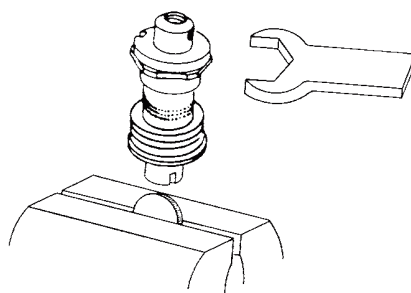
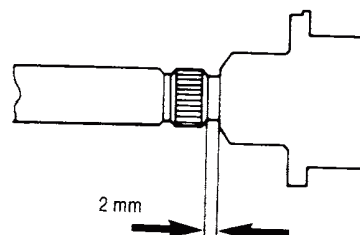

FIGURE 3
FIGURE 6
1. Unscrew the servo valve (15).
2. Unscrew the stop screw (10) using a 1.5mm allen wrench and remove the valve tube (13). Remove the O-rings (14, 12). Make sure the sealing surfaces are not damaged.
3. Remove the rubber plate (11).
4. To open valve housing place a 25¢ coin or washer of similar dimensions in a vise as shown in figure 3. Lower the valve housing slot onto coin or washer. Use a 24mm open end wrench, or 8 inch adjustable wrench on the wrench flats to loosen housing.
3. Grease the sleeve with a very thin coating of silicone. Install the sleeve holder (7) and the sleeve (6), or the newer sleeve and holder assembly (31) into the cleaned valve housing (4).
4. Place the O-ring (8) in the groove of the sleeve holder (7). Lubricate the thread. Install the valve housing nut (9).
5. To close valve housing place a 25¢ coin or washer of similar dimensions in a vise as shown in figure 3. Lower the valve housing slot onto coin or washer. Use a 24mm open end wrench, or 8 inch adjustable wrench on the wrench flats to tighten housing.
6. Install the O-rings (12, 14) on the valve tube (13). Grease the threads and the O-rings lightly.
7. Screw in the valve tube (13) until about .078" (2mm) space remains (if you don't have a .078" gauge or micrometer the edge of a U.S. nickel can be inserted as a gauge). (See Fig. 6)
A. Valve tube (13) may be adjusted too far in from diaphragm. See the valve tube (13) adjusting procedure on page 5.
B. In rare instances the regulator hisses from the second stage unless the valve tube (13) is screwed all the way in with no gap (when compared to fig. 6 on page 5). This seems to force the technician to set the regulator up to be hard breathing. The problem under these circumstances is often the very small spring attached to the backside of the purge bar (28). This spring should have a slight gap between it, and the diaphragm. If it is too long, it will be in constant contact with the diaphragm (25), pushing the diaphragm towards the servo valve (15) as you screw the valve tube inward away from the diaphragm. To correct this, use a sharp pair of side cutters to snip just the end coil off of the spring. Then follow the valve tube adjusting procedure on page 5.